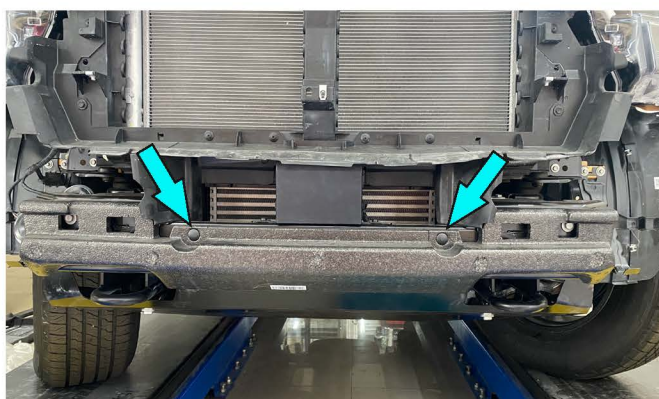

Fig.10
10. Remove plastic clips and remove damper (fig.10).